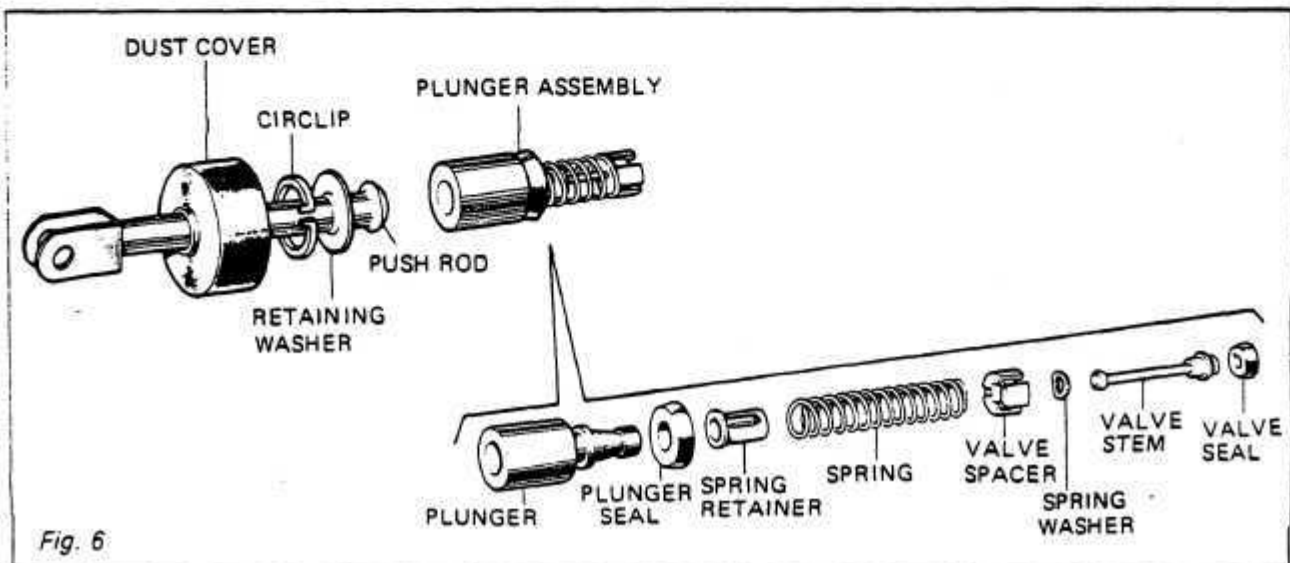

Fig. 6
10. Examine plunger and cylinder bore for visible score marks, ridges and corrosion. If bore or plunger are not smooth, cylinder must be replaced. *Fig. 6*
2. Lubricate new plunger seal with clean brake fluid and install seal on the plunger with lip facing valve assembly. *Fig. 6*